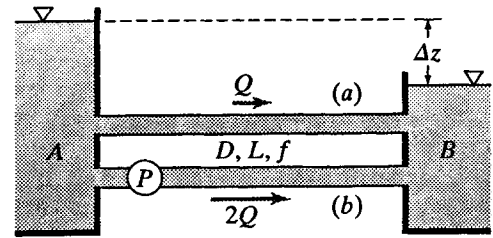

Figure P15.47
15.47 Water at 60°F flows by gravity between two reservoirs. The water surface in Reservoir A is at elevation 5010 ft and that in Reservoir B is at elevation 4980 ft. The water flows through a 24-in-diameter pipe ( $f = 0.026$ ) of length 8000 ft (Fig. P15.47). (a) What is the flow rate? Neglect minor losses. (b) If one wishes to double the flow rate using a pump operating at 1800 rpm, what specific speed pump would you recommend? (c) Approximately what would be the diameter of the impeller of the pump? (d) If the pump were set at the upper end of the pipeline, at what elevation must the pump be set to safeguard against cavitation if the head loss from Reservoir A to the pump is 1.5 ft?